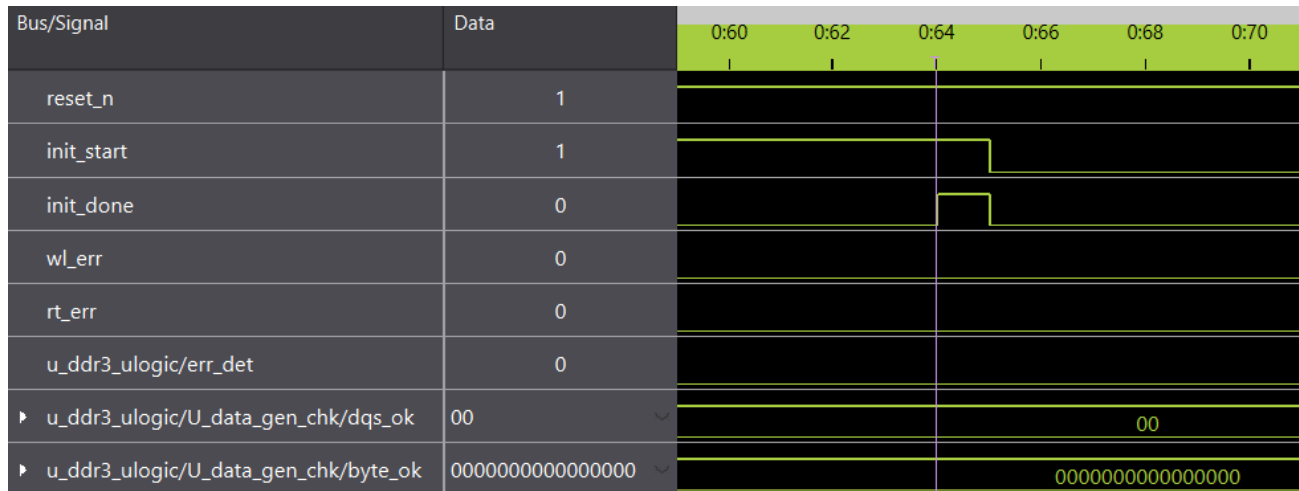

Figure 4.6. Expected Waveform from Successful Demo
- Figure 4.6 shows the expected waveforms upon assertion of *init_done* and refer to Table 4.3 for a brief description of the displayed waveform signals.